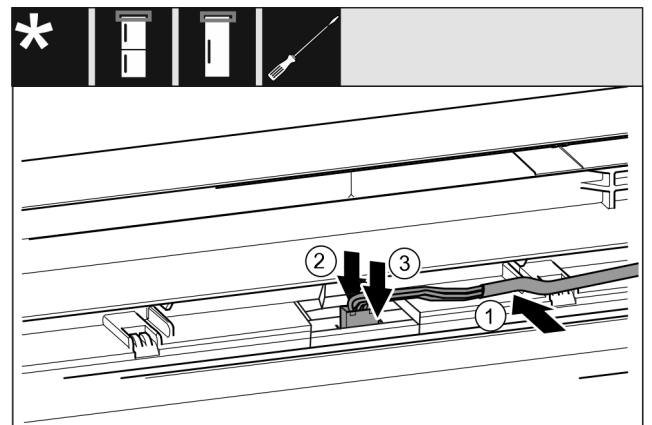

Fig. 44
- ▶ Insert the grey cable into the guide in the top door. Fig. 44 (1)
- ▶ Press back the latching lug. Fig. 44 (2)
- ▶ Engage the plug. Fig. 44 (3)